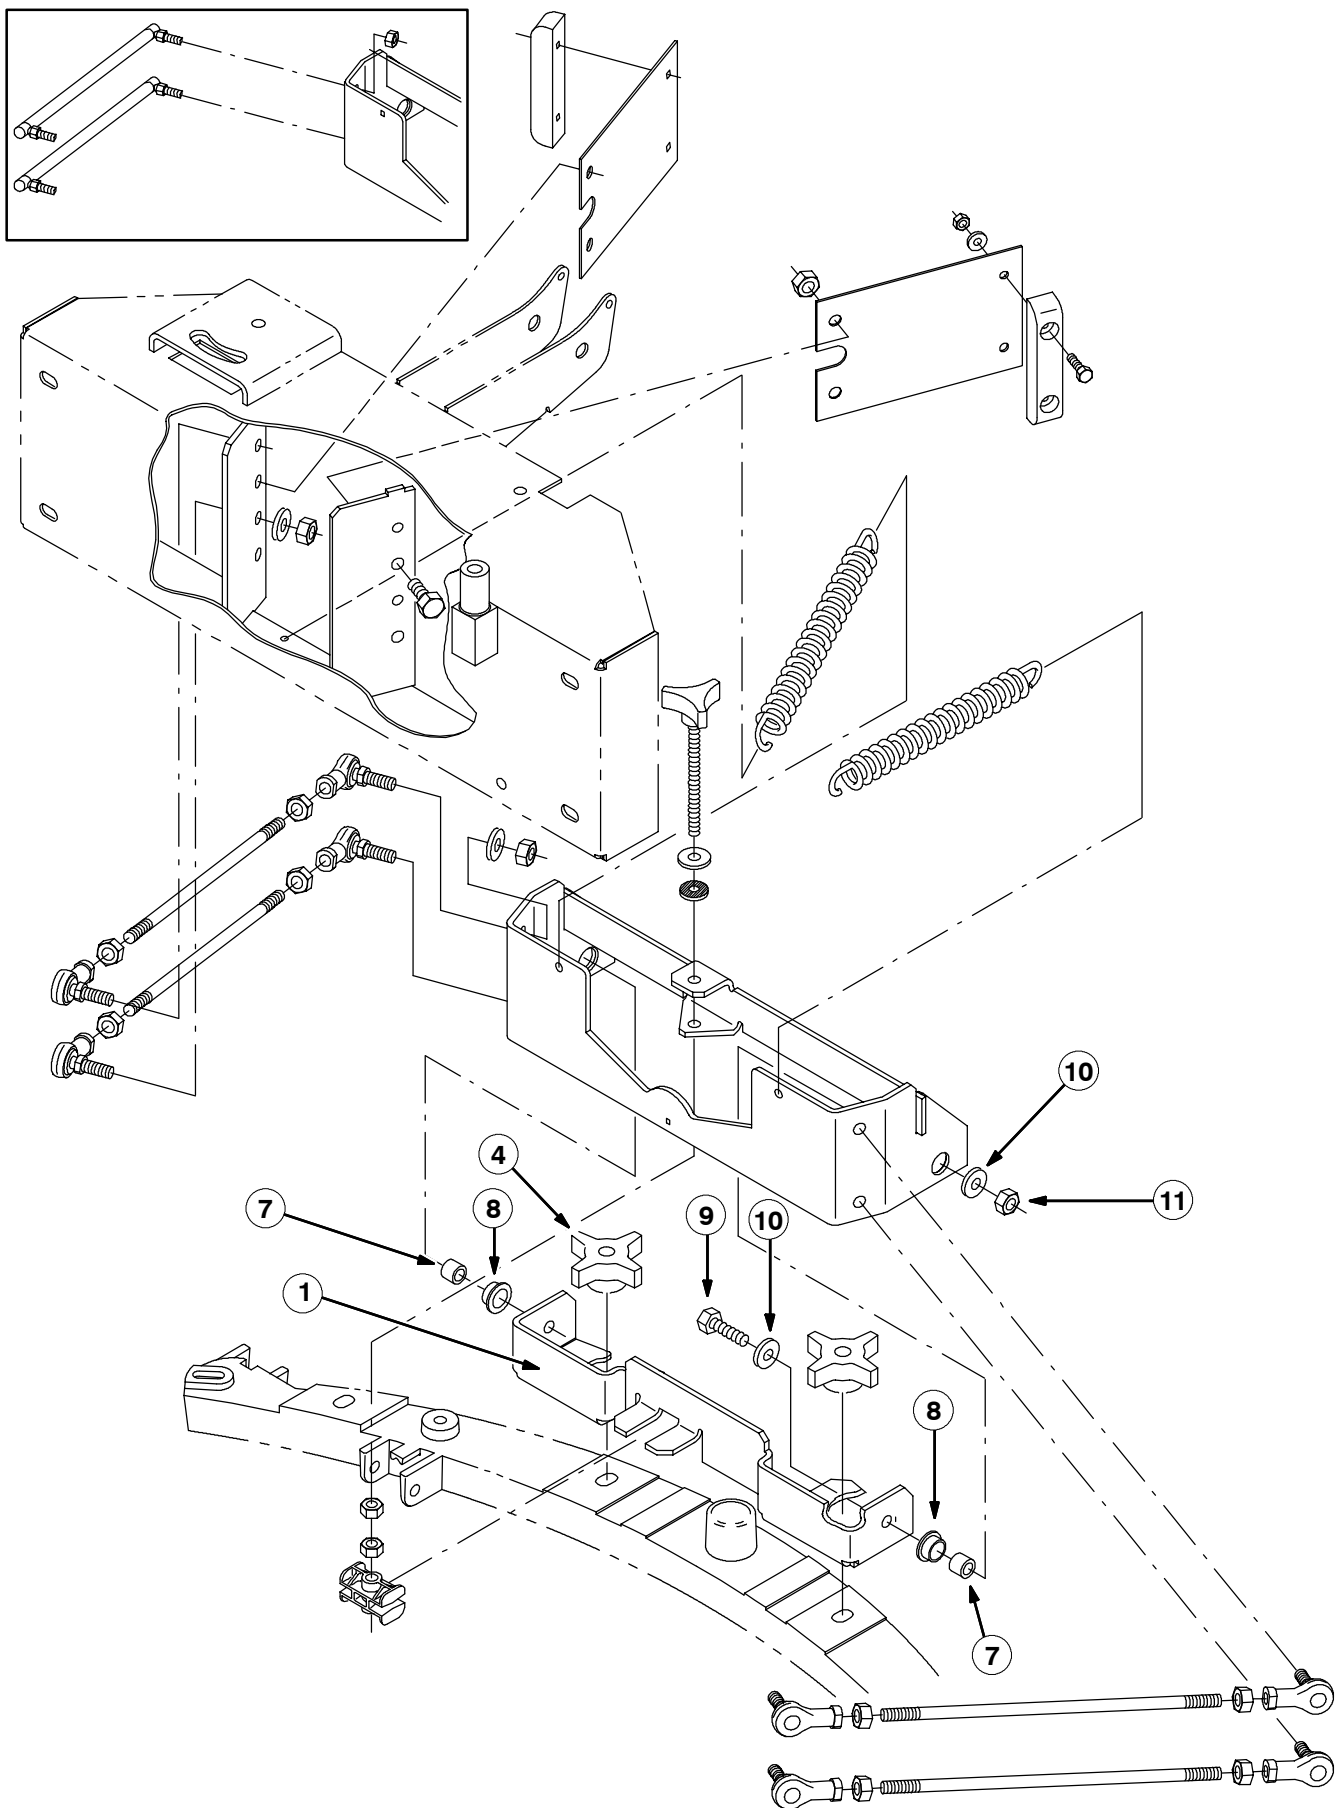

FIG. 1 - NEW REAR SQUEEGEE PIVOT BRACKET INSTALLATION
(Refer to FIG. 1 and 2)
7. Mount the new pivot bracket (1) to the squeegee lift bracket with new sleeves (8), bushings (7) screws (9), washers (10) and lock nuts (11). (Refer to FIG. 1)
11. Mount the new rear squeegee assembly to the pivot bracket (1), and secure with the mounting knobs (4). (Refer to FIG. 1)